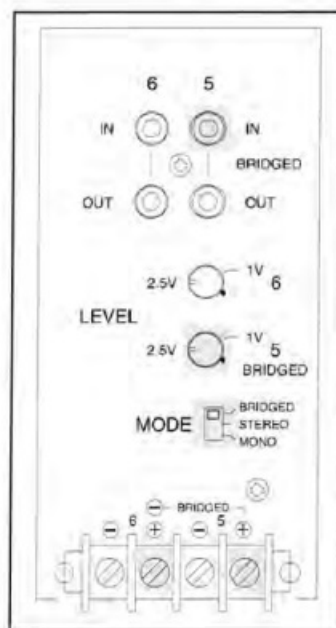

Figure 2
- A pair of MC7108 channels in Bridged mode will produce 100 watts of output into a 4-ohm loudspeaker. Refer to Figure 2.